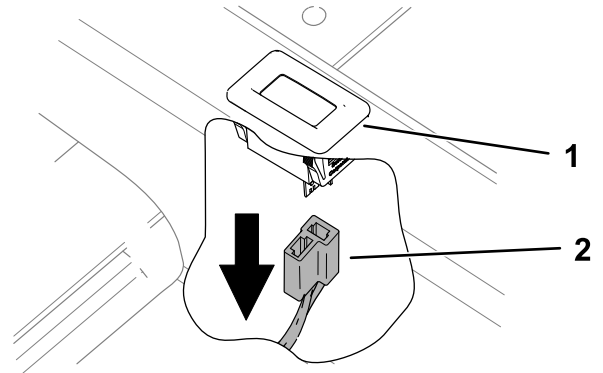

Figure 8
1. Disconnect the machine hour meter connector from the hour meter (Figure 8).